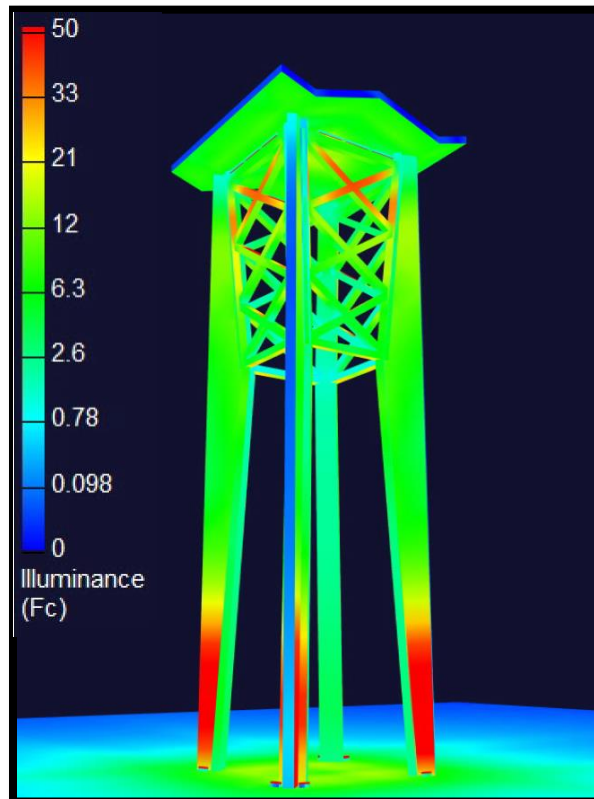
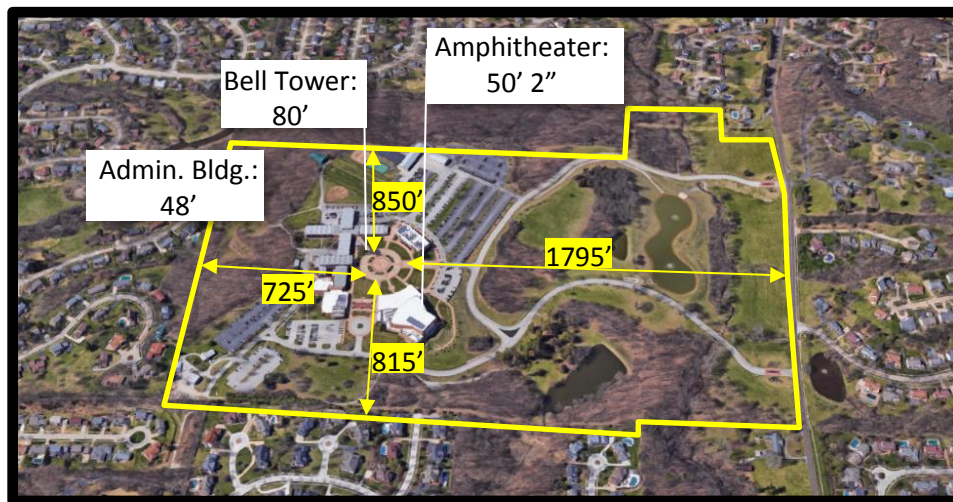

Figure 4: Proposed Color Photometric Plan
Figure 7: Structure heights and distance of the tower to the property line
*The applicant has stated in their narrative statement that the proposed lighting of the legs would 'accentuate the architectural detailing of the crossmember sections.' The photometric plan (Figure 4) shows the highlighting of the crossmember sections.*
- The color temperature of architectural specialty lighting should underscore the building materials and character. Also, when non-traditional lighting color is requested, changes in color shall be limited to one (1) change within any twenty-four (24) hour time period. Modifications to this standard shall require a 2/3 vote of the Planning Commission. Additionally, architectural specialty lighting should be unobtrusive in intensity and should not turn a building into an attention-getting device or blanket signage.
*The light levels are indicated on the color photometric plan (Figure 4), which have footcandles that range from 50 foot candles, at the base of the legs and upper crossmember sections, down to 0 footcandles on the edge of the roof to indicate no sky glow will be emitted. A large portion of the tower will be lit in in the 6 to 12 footcandle range.*
Due to the location of the tower being centrally located on the campus and its significant distance from any roads (Figure 7), the proposed lighting should not interfere with or obscure the public's capacity to receive information, or cause visual confusion by interfering with pedestrian or vehicular traffic. However, the 80' tall Bell Tower is visible from adjacent properties and roadways.
As seen in the photometric rendering of the tower above (Figure 4), the lights would be pointed upward and placed at an angle to ensure no off site glare, and would be shielded by the tower itself. Below is a figure (Figure 7) showing the height of various buildings and the distance the Bell Tower is located from property lines. While there is a significant distance between the tower and the adjacent properties, the significant grade change does make the Bell Tower visible from off-site.